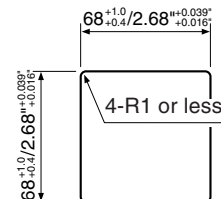

Fig. 2
1. Cut out an opening to match the dimensions shown (Fig. 2).